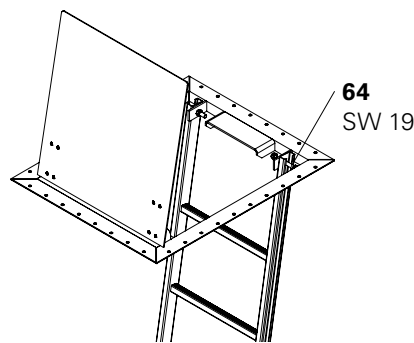

Fig. B1.41
2. Fix ladder to the hatch from the top using 2x Bolts ISO 4017 M12 x 40-8.8 (64), SW 19. (Fig. B1.41)